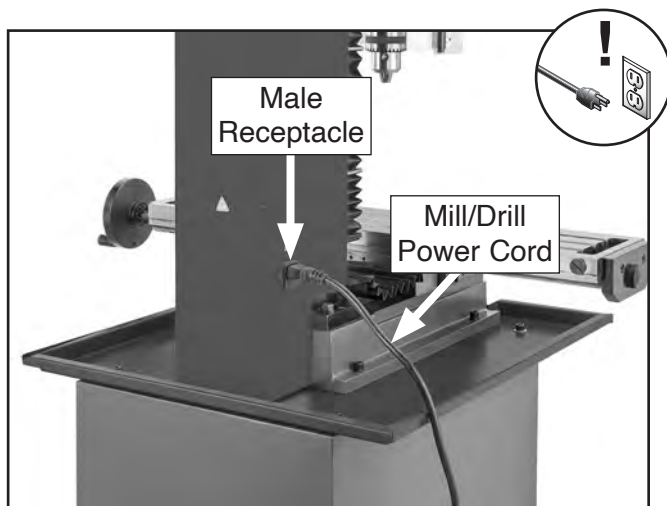

Figure 60. Mill/drill power cord connected to male receptacle on column (G0982 shown).
2. Disconnect mill/drill power cord from male receptacle on column (see **Figure 60**).